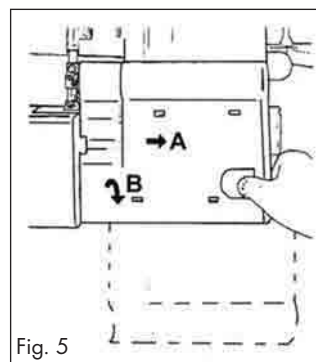

Fig. 5
- Slide the front flap ⑩ to the right (A) and then pull it towards you (B) (Fig. 5). You will see the upper looper behind the front flap ⑩.